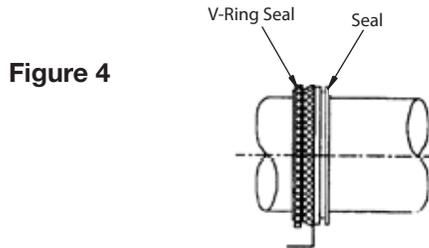

Figure 4
1. Install a V-ring seal on each seal ring with the lip on V-ring facing the large OD of the seal ring (Figure 4).
2. Slide one of the seal assemblies on the shaft to the proper location for assembly into the housing. The lip of the V-ring seal must face the bearing (Figure 4).